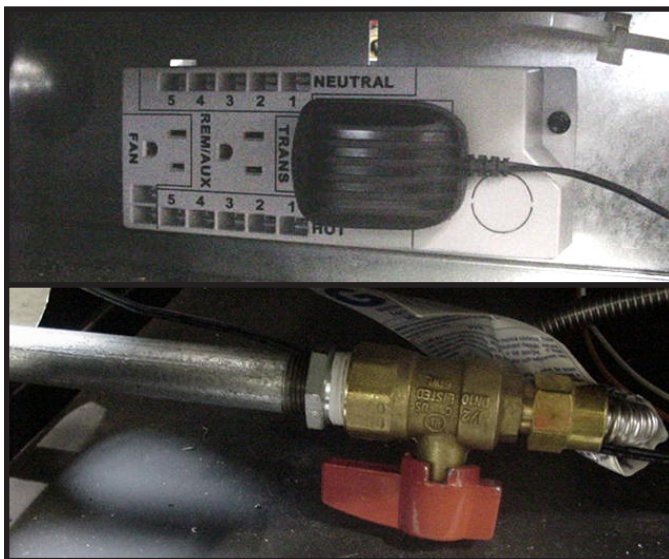

Figure 13.1 Preparation to Install Splatter Guard
Step 1. Turn off gas to valve. Red gas shutoff knob is located on ball valve. Disconnect the 3 volt transformer from the junction box. See Figure 13.1.